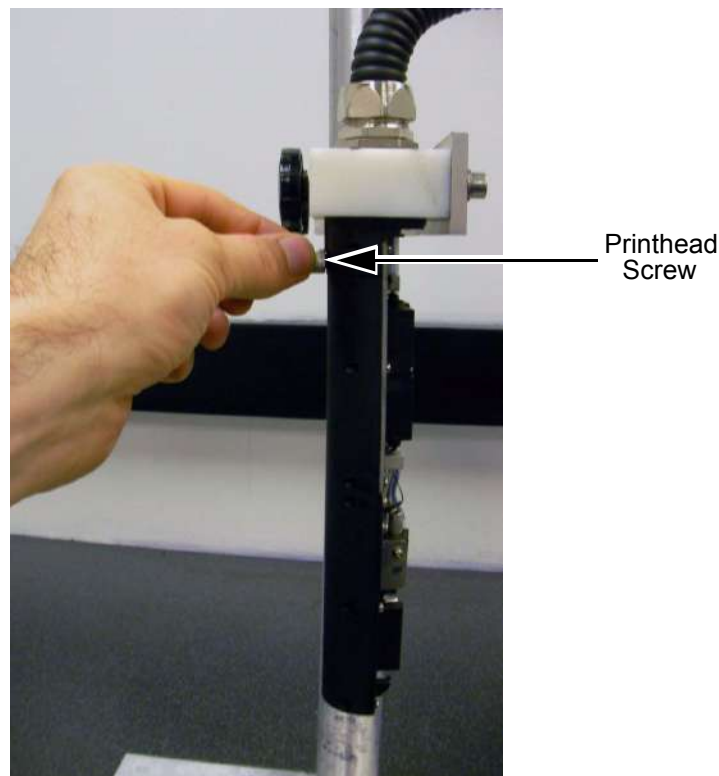

Figure 7-2. Printhead Screw
- 2 Locate the printhead screw into the printhead (Figure 7-2) and make sure that the screw is in contact with the earth wire in the umbilical.